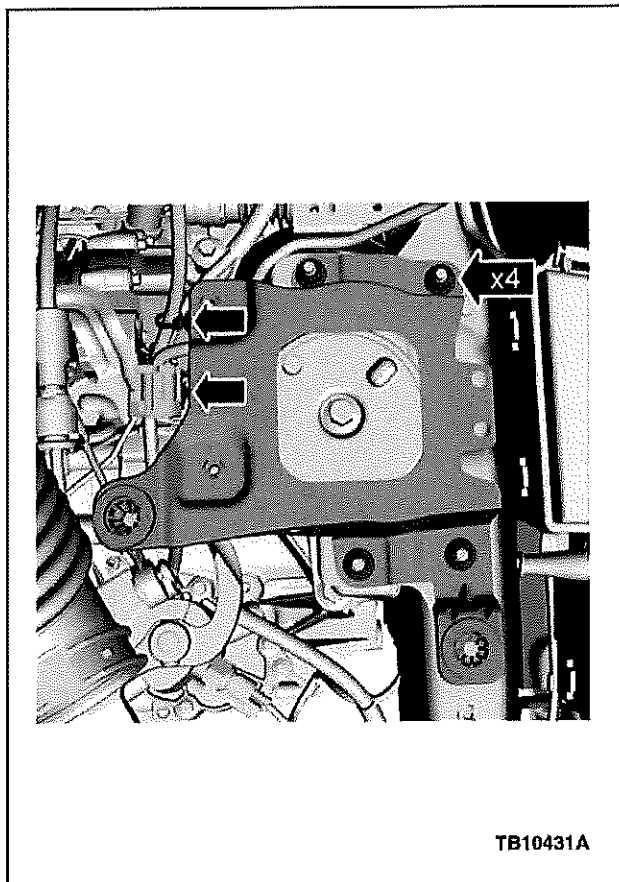

Figure 2 - Article 13-6-10
7. Remove battery tray reinforcement by removing the four (4) fasteners. (Figure 2)
13. Install battery tray reinforcement with the four (4) fasteners and torque to 48 N•m (35 lb-ft). (Figure 2)
- a. If the three (3) engine mount studs loosen during engine mount removal, torque the three (3) engine mount studs to 17.5 N•m (13 lb-ft)